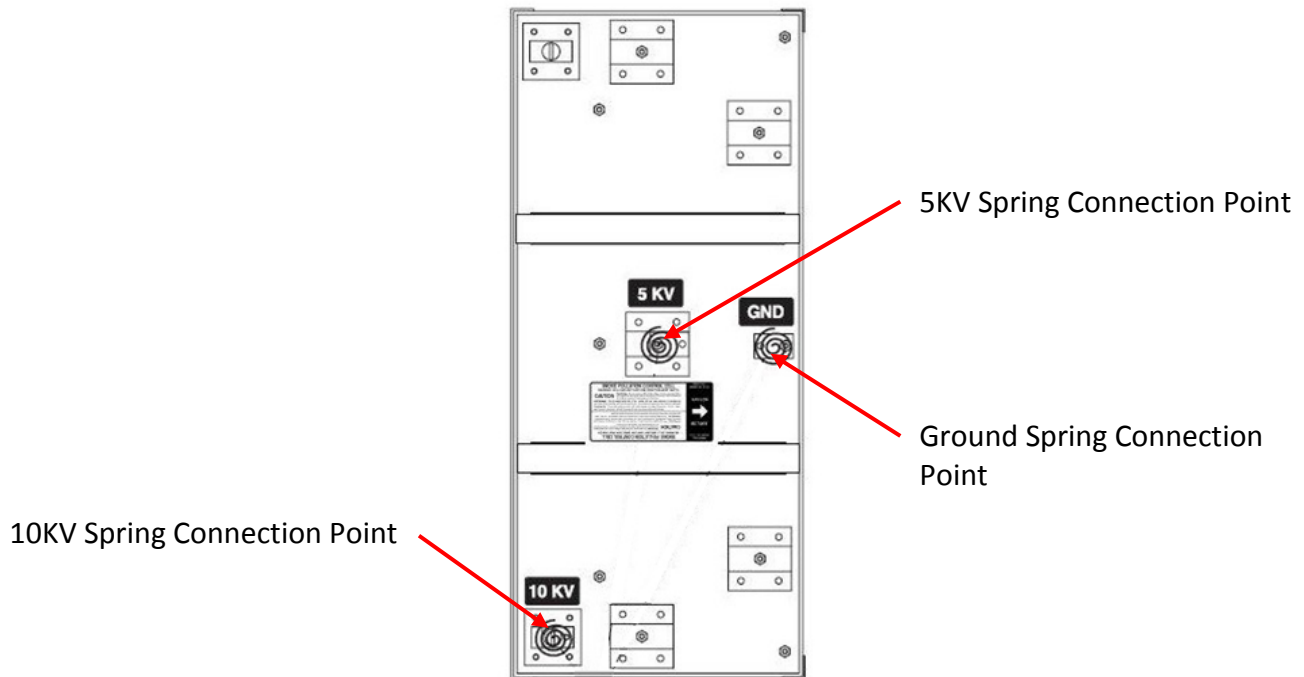

Figure 4-29-1
4. Slide all the first set of Inner Cells to the Cell opening. Attach one end of an alligator clip wire to the Grounding spring connection point on the Cell and the other end to the end of the Ground lead wire (Refer to Figure 4-29-1).
5. Attached one end of an alligator clip wire to the 5KV spring connection point on the Cell and the other end to the end of the 5KV lead wire (Refer to Figure 4-29-1).